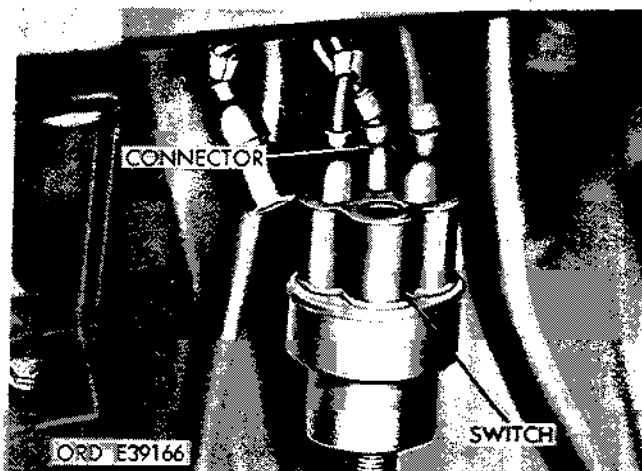

Figure 2-276. Disconnect ignition switch cable connectors from switch.
(4) Disconnect cable connectors. For installation, match serrated male and female connectors (fig. 2-276).